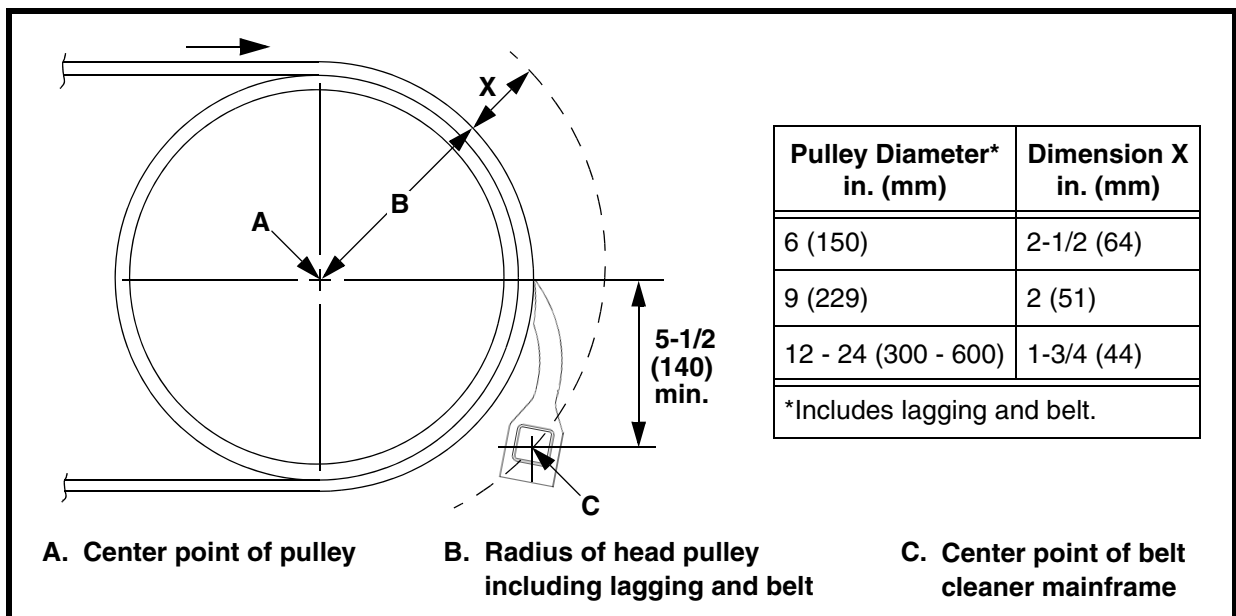

Figure 1. Belt Cleaner Mainframe Location
1. On operator side of chute wall, mark vertical and horizontal center line of head pulley to find pulley center point (A).
2. Measure radius of head pulley including lagging and belt thickness (B). To this dimension, add dimension X from the table in Figure 1.